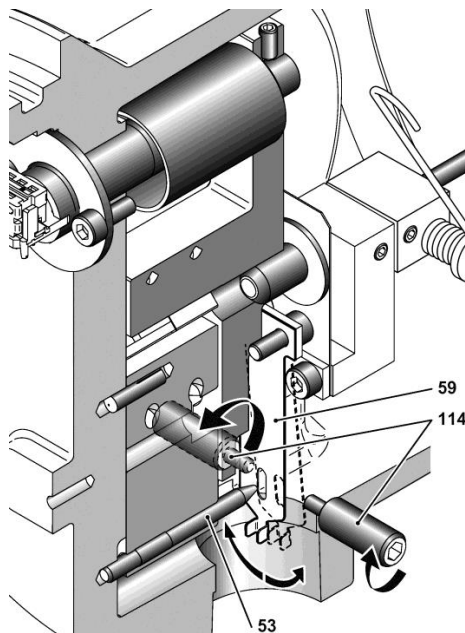

Figure18
- a. Open the access plug (107) on the right side of the case to look at the simulation mechanism. Remove plug (190) and the two 1/8" NPT plugs (115). Use a 5 mm hex wrench.
- b. Through this hole, to define REF L and REF H, use your finger to move the flexure (59) in the direction of the torque tube until the flexure touches the adjusting screw post (114). While maintaining contact, slide the flexure left or right along the surface of the screw post (Figure 18).